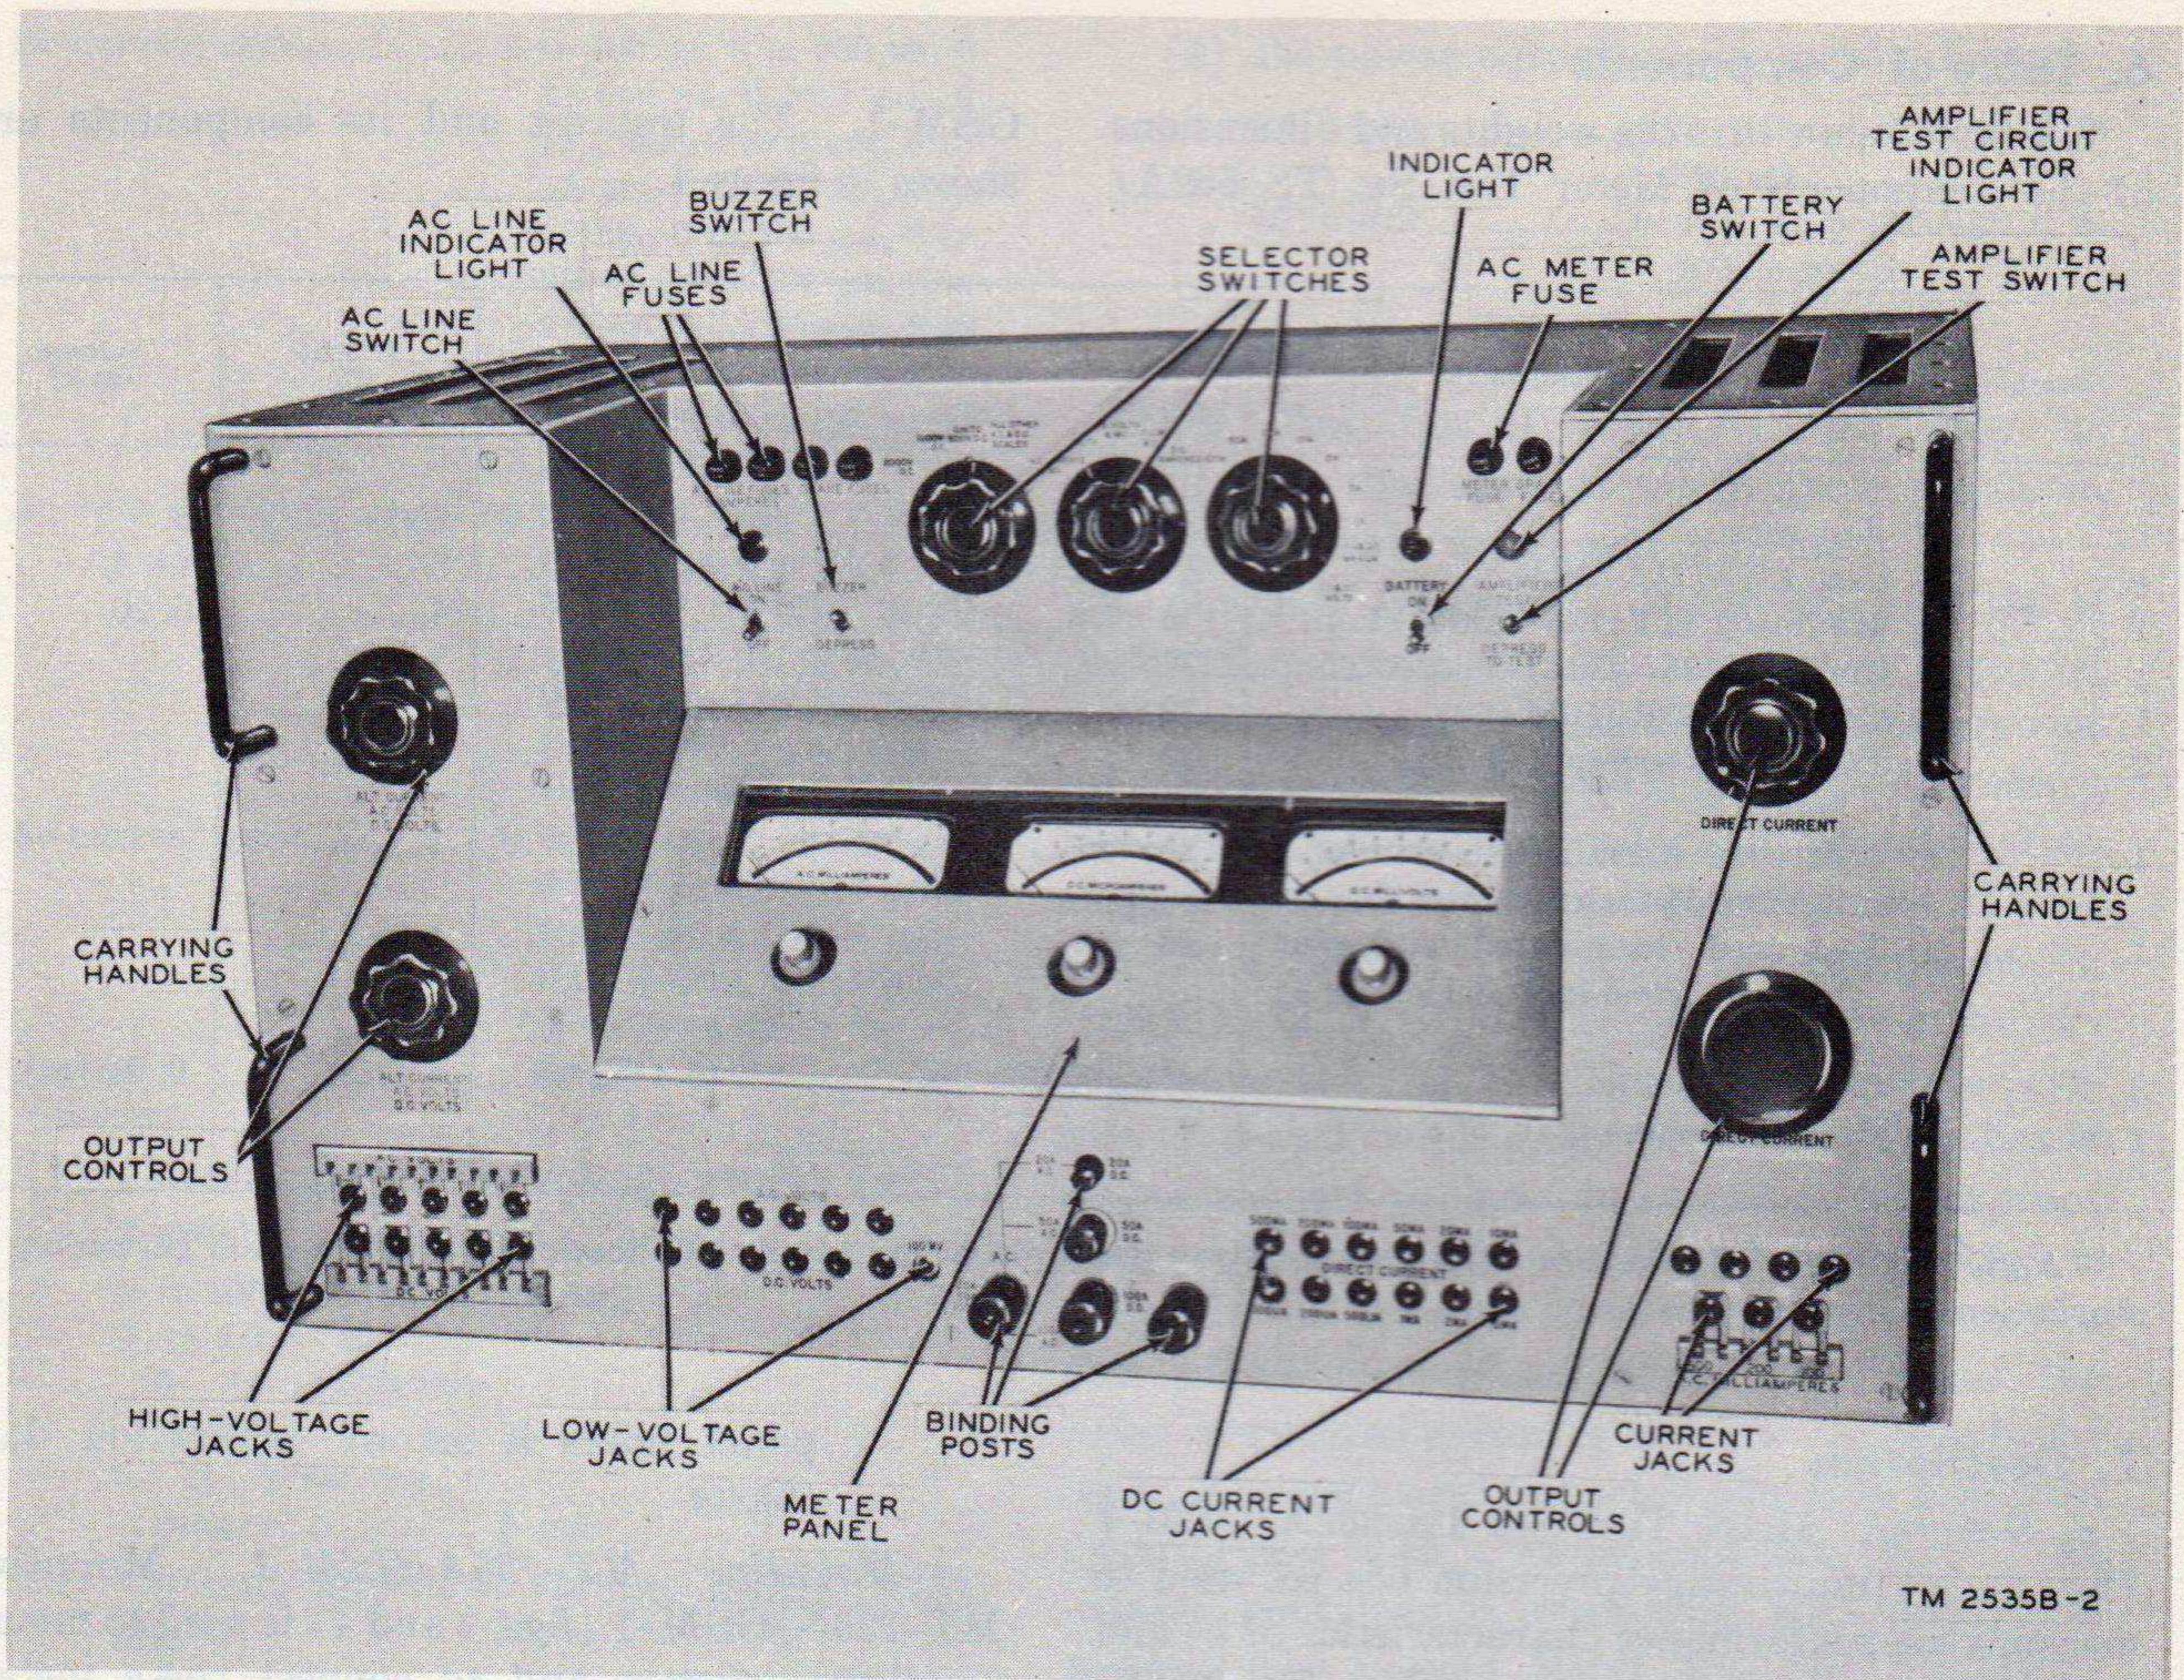

Figure 2. Test set, front view.
(1) The test set (fig. 2) is inclosed in a heavy aluminum cabinet on which all parts and the inclosing panels are mounted. Three standard meters are mounted in a shock-mounted case. The meters are mounted at a 45° angle on the front of the test set. The meter panel, the U-shaped panel on which the output controls, jacks, and binding posts are mounted, and the offset switch panel are faced with insulating phenolic sheets.
- (5) Open the outer corrugated carton and break the sealed moisture-vaporproof barrier within the outer corrugated carton.
- (6) Remove the inner corrugated carton.
- (7) Open the inner corrugated carton and remove the equipment from this inner corrugated carton. Remove the corrugated filler or other packing material and place it near its final location.
- (8) Open the case and inspect the equipment for damage.
- (9) Check the contents of the case against the master packing slip.
- (10) Pull the test set from the case by the handles on the front of the equipment (fig. 2). Place the test set on a workbench.